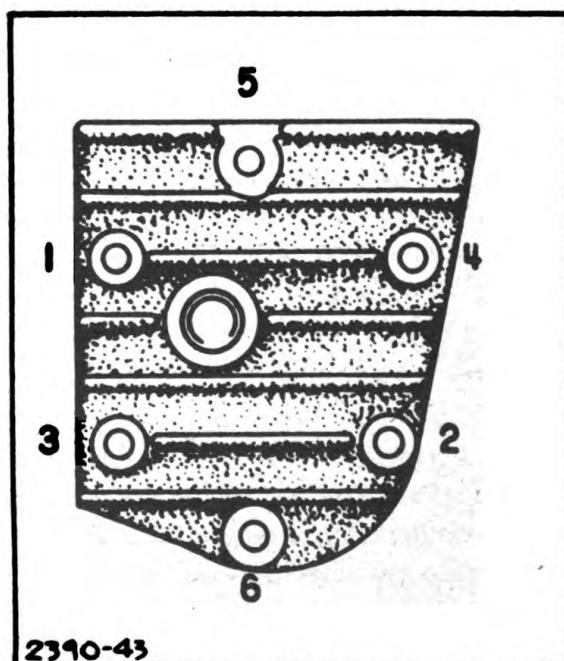

Figure 17.—Cylinder head
26. CYLINDER HEAD.—The cylinder head (fig. 17) is held on with six cap screws. When the cylinder head has been removed for the purpose of cleaning carbon, or grinding valves, care should be used in replacing it. Use a new gasket if possible. Otherwise, clean the old one and coat both sides with cup grease. *Do not use shellac on cylinder head gaskets.* Tighten each cap screw *a little at a time*, in the order shown in figure 17, so that cylinder head is pulled down evenly. Screws need be only moderately tight.